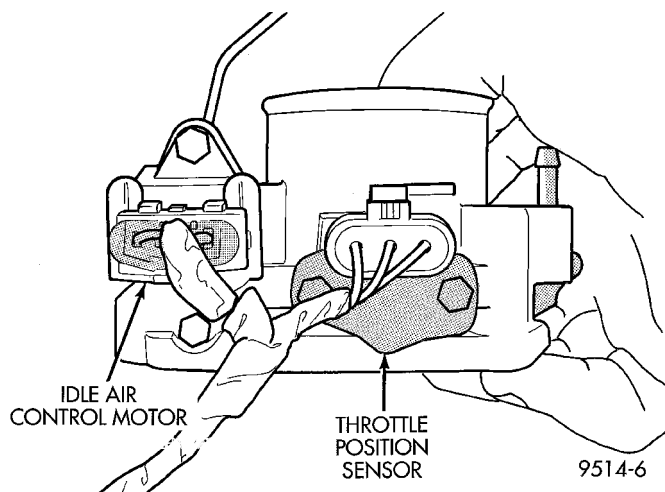
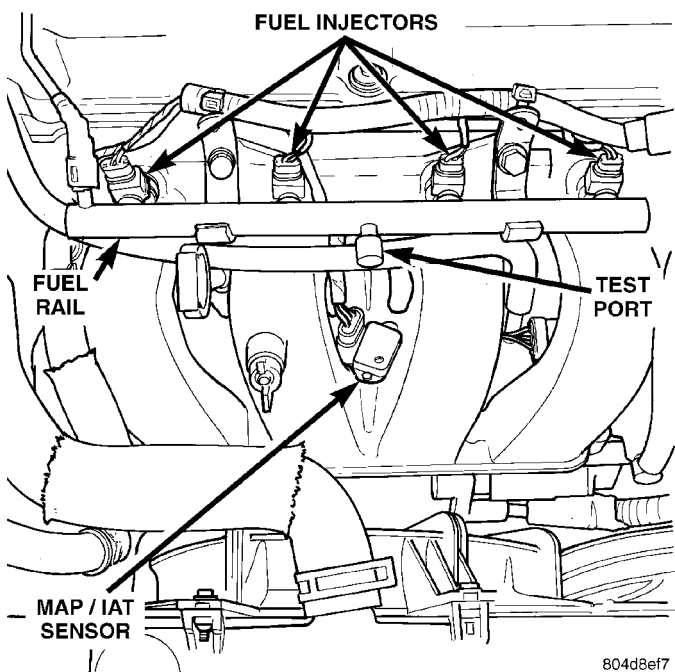

Fig. 23 Idle Air Control (IAC) Motor and Throttle Position Sensor (TPS) Wiring Connectors
Fig. 24 Manifold Absolute Pressure/Intake Air Temperature Sensor (TMAP) Electrical Connector
(10) Remove accelerator, kickdown and speed control cables from throttle lever and bracket. Refer to Group 14, Fuel System Throttle Body Removal for procedures.
(11) Remove throttle body.
(12) Disconnect Idle Air Control (IAC) motor and Throttle Position Sensor (TPS) wiring connectors (Fig. 23).
(13) Disconnect vacuum hoses from throttle body.
(14) Disconnect Manifold Absolute Pressure/Intake Air Temperature sensor (MAP) electrical connector. Disconnect vapor and brake booster hoses (Fig. 24).